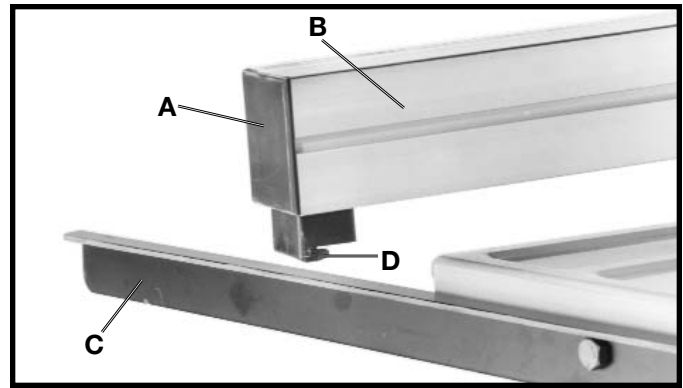

Fig. 45
1. Insert end cap (A) Fig. 45, into back of rip fence (B).
2. With the fence handle (A) Fig. 46, in the raised position, place the rip fence (B) onto the rear guide rail (C) so the hooked end (D) Fig. 45, fits over the top ledge of the guide rail as shown.